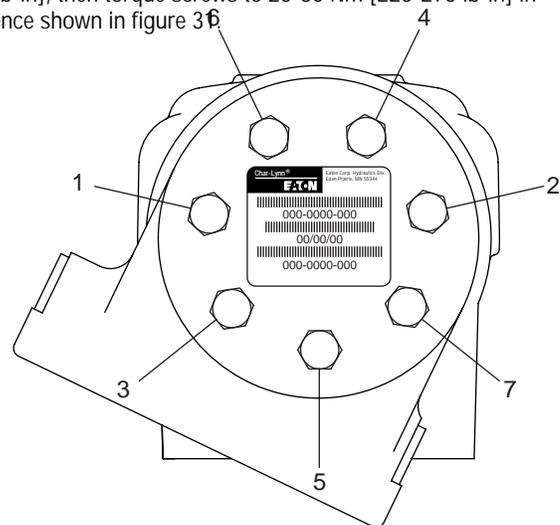

Figure 31
- 41 Install 7 dry cap screws in end cap. Pretighten screws to 17 Nm [150 lb-in], then torque screws to 25-30 Nm [225-275 lb-in] in sequence shown in figure 31.